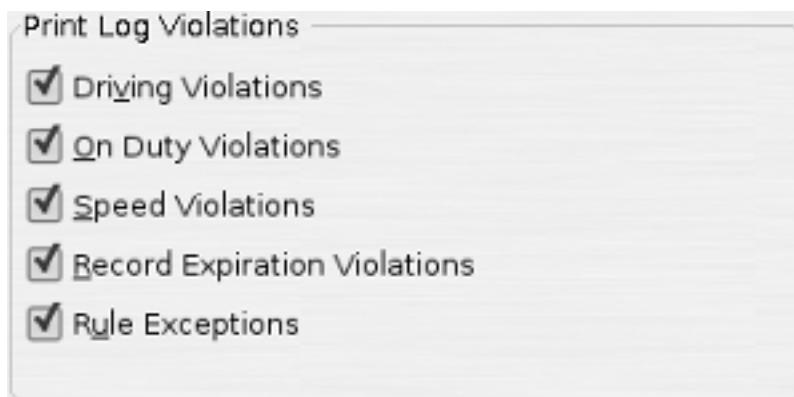

Figure 7.11. Log Violation Print Settings
2. In the "Print Log Violations" section see Figure 7.11, "Log Violation Print Settings" a list of all the log violations that trucklogger generates are listed. Beside each violation type is checkbox. When the checkbox is checked any log violations of that type that occurred on the log date being printed will be printed on the log. When the checkbox is NOT check the log violation will not be printed on the log.